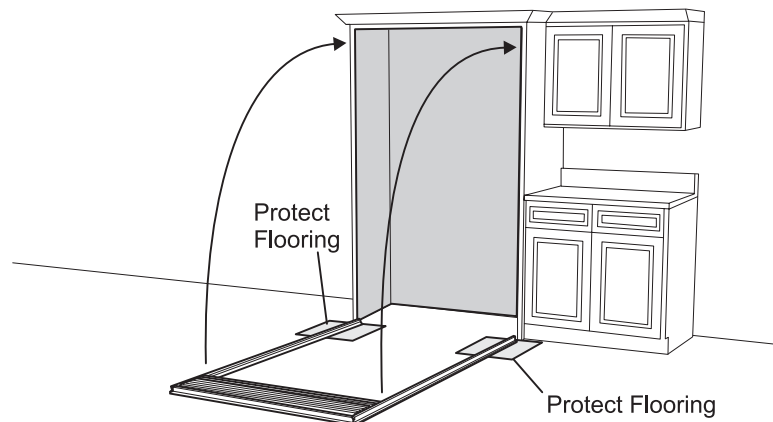

Figure 5
- First, place protective covering where side trim will contact the floor near rough opening. Then, stand up the grille and frame assembly and center in rough opening. See Figure 5. You may need to use several pieces of tape at the top corners and top center to temporarily hold the assembly in place.